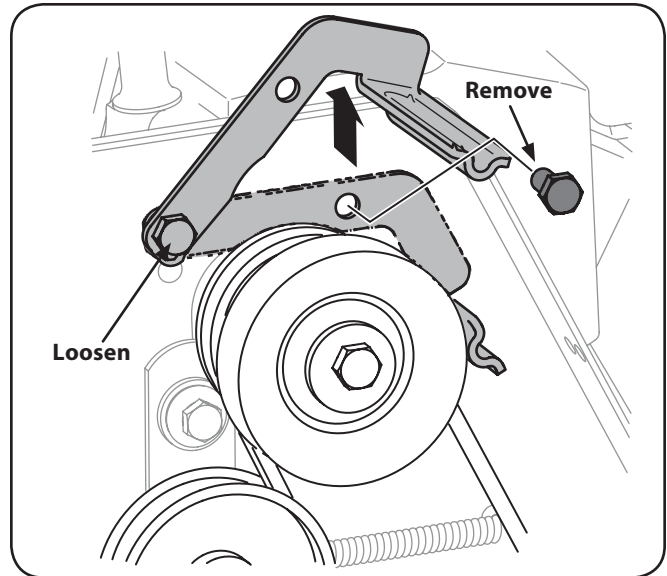

Figure 7-3
3. Loosen the bolt shown in Figure 7-3 securing the belt keeper bracket and remove the other bolt. Push the belt keeper and bracket up off the engine pulley.